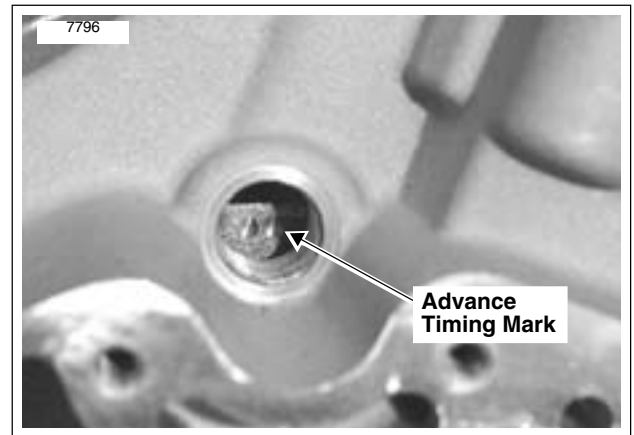

Figure 7-21. Dynamic Ignition Timing
6. See Figure 7-21. Timing light will flash each time an ignition system spark occurs. Aim timing light into timing inspection hole. The advance timing mark (two dots) should be centered in timing inspection hole. If this is the case, ignition timing is properly adjusted. Go to Step 11. If timing mark is not centered or is not visible in the timing inspection hole, see to Steps 7-12.
9. With timing light aimed into inspection hole, rotate module plate until advance timing mark is centered in timing inspection hole (as shown in Figure 7-21.).